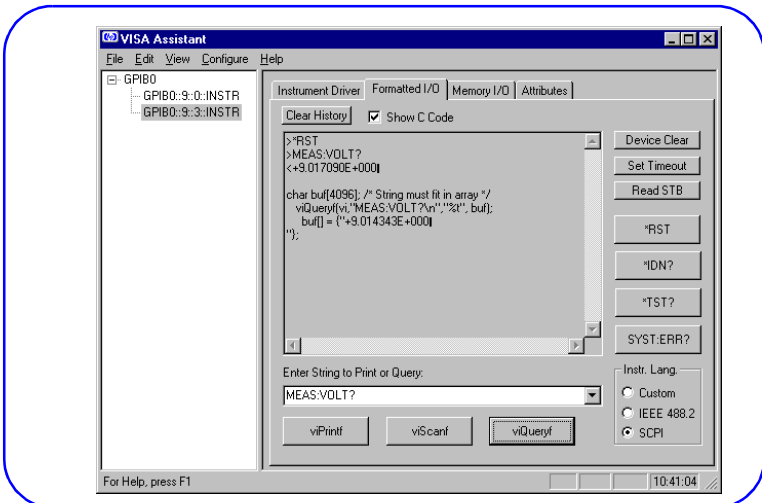

Figure 29. Example: Typical VISA Assistant Display
- The result should be similar to that in Figure 29.